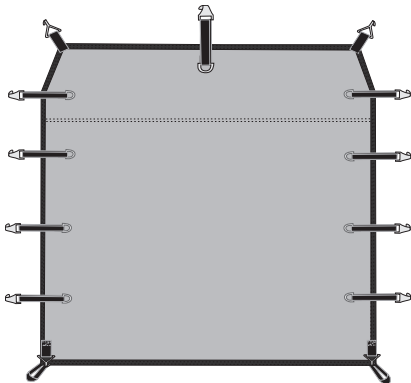

Fig. 12
- Unfold two SunWalls. Stretch elastic straps and hook clips at the two top corners of SunWall to the metal rings on the top of two frame posts. (Fig. 12 & 13)